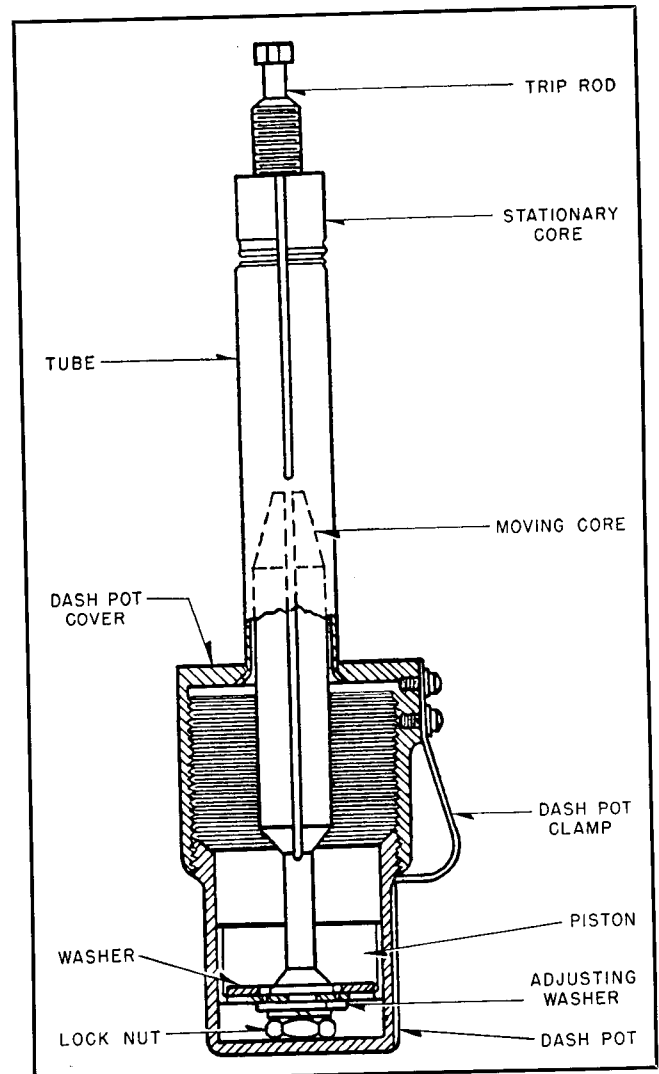

FIG. 9. Inverse Time Limit Trip
**Inverse Time Limit Trip.** (See Fig. 9.) This has a dash pot device that is used in conjunction with the overload trip attachment where tripping is not desired unless the overload continues. The current calibration is varied by screwing the pot into or out of the cover.